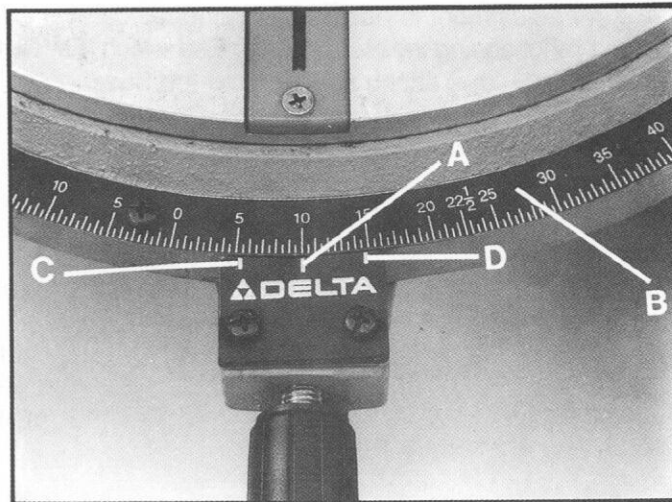

Fig. 16
The center line (A) Fig.16, on the pointer indicates the actual angle of cut. Each line on the scale (B) represents 1/2 degrees. In effect, when the center line (A) is moved from one line to the next on the scale the angle of cut is changed by 1/2 degree.
The pointer is provided with two additional lines (C) and (D) Fig.16. This allows you to move the control arm 1/4 degree. For example, assume the center line (A) is pointing to the 10 degree mark on the scale, as shown, and you want to change the angle of cut 1/4 degree to the right. Move the control arm until the right line (D) lines up with the next line on the scale. The angle of cut will then be changed 1/4 degree to the right. If you were changing the angle of cut 1/4 degree to the left, use the left line (C) in the same manner.